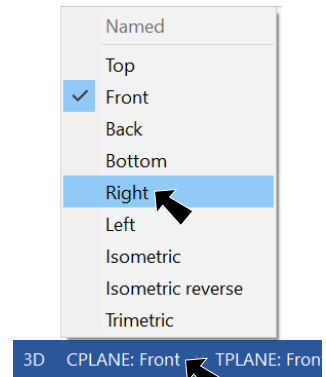

Fig. 21
Step 4. Change **CPLANE** to **Right**, **Fig 21**. To change, click **CPLANE** in Status bar at bottom of the graphics window and click **Right** from the menu.